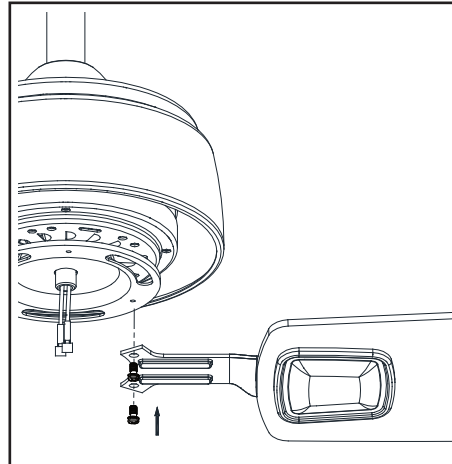

Figure 13
2. Fasten the blade assembly to the motor assembly by aligning the two screw holes in the blade assembly with the two screw holes in the motor assembly. Attach using the blade bracket screws provided (Figure 13).